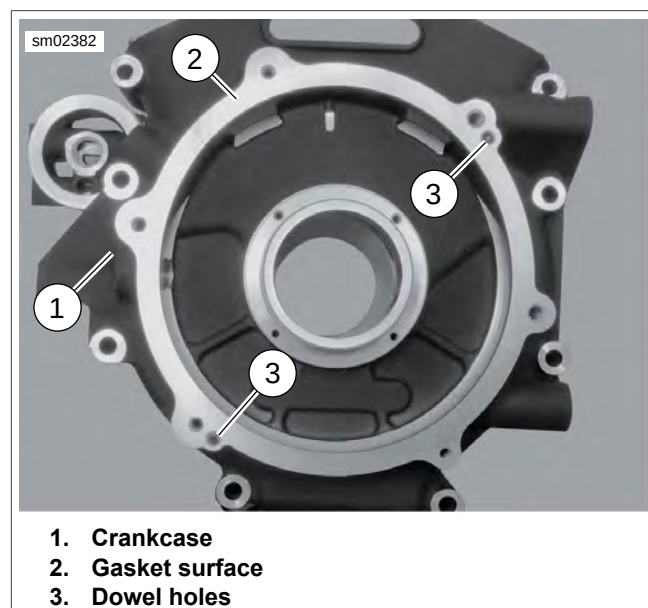

Figure 5-25. Crankcase
1. See Figure 5-25. Place crankcase gasket in place on gasket surface (2). Be sure dowels in gasket engage dowel holes (3).